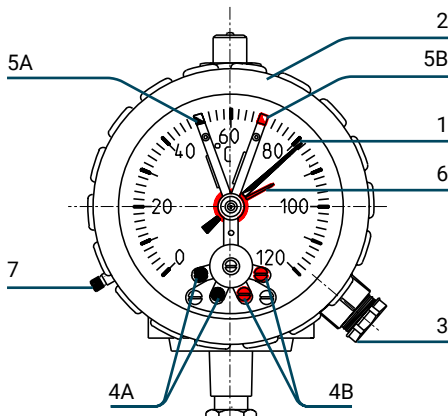
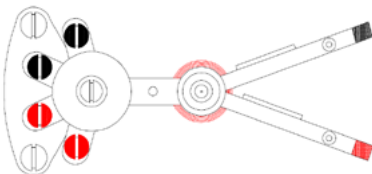

Figure 1
Figure 2
The maximum pointer (fig. 1/6) is operated by the pointer and records the maximum reading of the temperature measurement. The maximum pointer can be reset using the knob (fig. 1/7).
- In order to set the contacts, move the indicators (fig. 1/5) and position them at the required temperature.
- Reposition the glass or polycarbonate protection with the related gasket, paying attention the maximum pointer (fig. 1/6) to be positioned at the right of the main pointer (fig. 1/1).
- Fasten again the protection with the locking ring (fig. 1/2).
- Unscrew the locking ring that fixes the dial (fig. 1/2)
- Remove the dial to approach the contacts (fig. 1/4)
- Insert the cables through the cable gland (fig. 1/3) and connect them how indicated in fig. 2
It's possible to re-position the maximum pointer (fig. 1/6) by rotating the wheel in fig. 1/7.
The wheel in fig. 1/7 must not be pushed, but shall be only rotated.